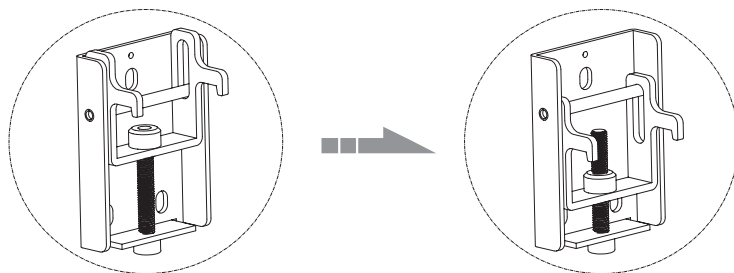

Fig 18.
1. The mounting brackets should preferably be placed at a distance of  $\frac{1}{4}$  of the total frame width from the edge of the frame. (Example: Frame width 200cm -> distance between mounting brackets and edge of frame = 50cm). Insert the upper and lower mounting brackets once into the still lying screen and measure the distance between the upper and lower brackets. Before mounting, loosen the safety catches of the two lower brackets (Fig. 18).